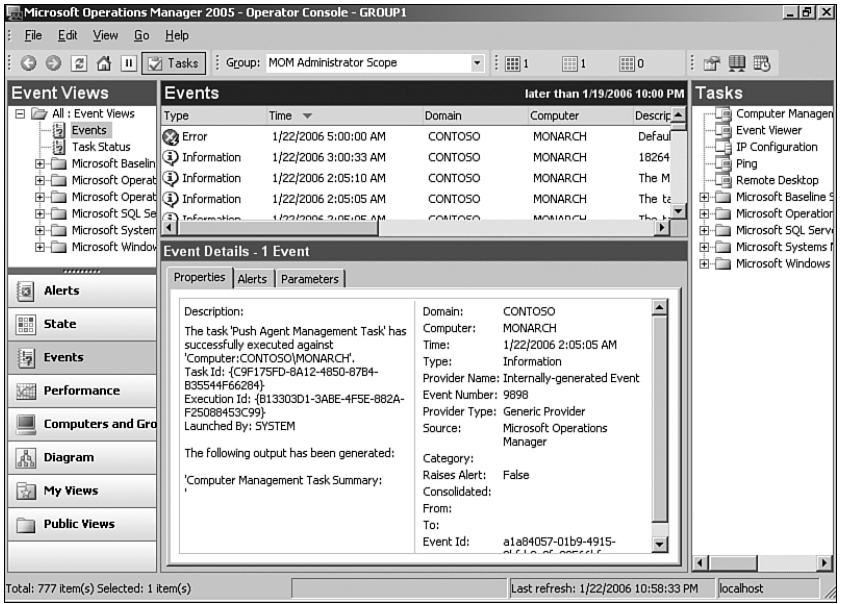

FIGURE 8.13 The MOM 2005 Operator console Events view.
**Events** The Events view consolidates all events that have occurred on monitored systems within the management group. The information is shown in the Results Pane and can be sorted by any column including event type, time, domain, computer, description, source, category, event number, user, or event id. By consolidating event logs, the Operator console provides a central location to search through the error logs when researching a service failure or warning. Figure 8.13 shows the Events view sorted by event type.